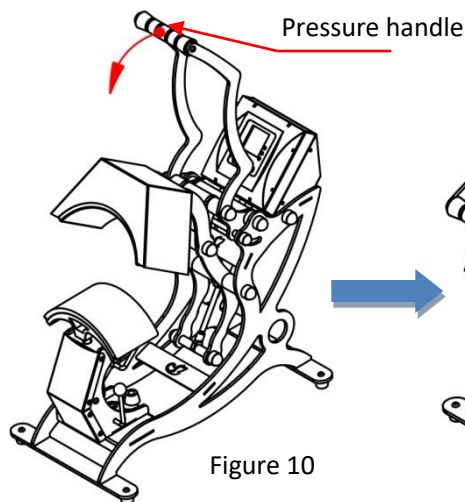
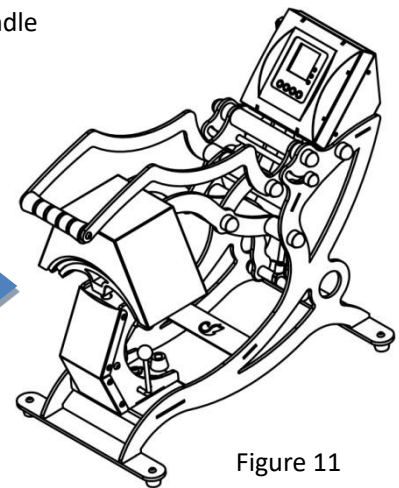

Figure 10
Figure 11
5. As shown in Figure 10 and Figure 11, Press the “pressure handle” when the initial temperature is reached. Press “execute” button once until the beeper keeps beeping, then press “execute” button again to complete heat pressing. The machine will back to initial temperature automatically as cap removed and stand by to rapid heat press status.